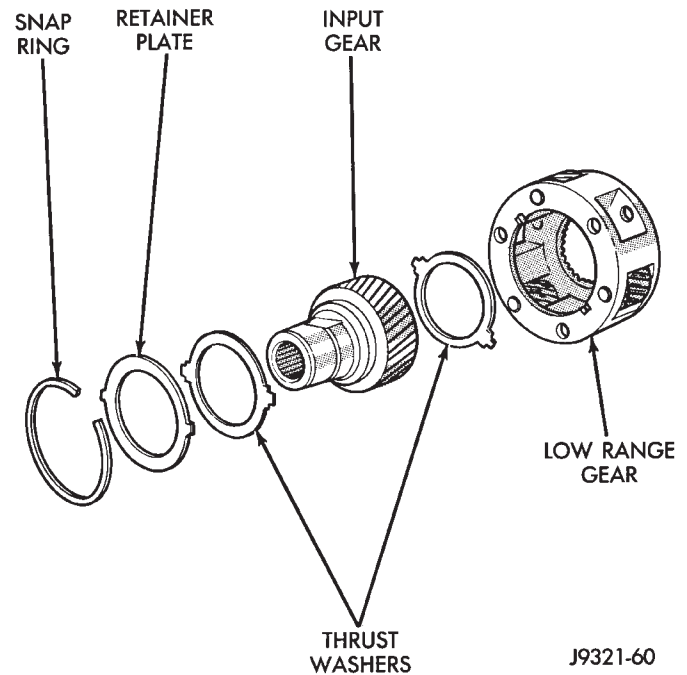

Fig. 56 Input/Low Range Gear Components
(1) Lubricate gears and thrust washers (Fig. 56) with recommended transmission fluid.
(2) Install first thrust washer in low range gear (Fig. 56). Be sure washer tabs are properly aligned in gear notches.